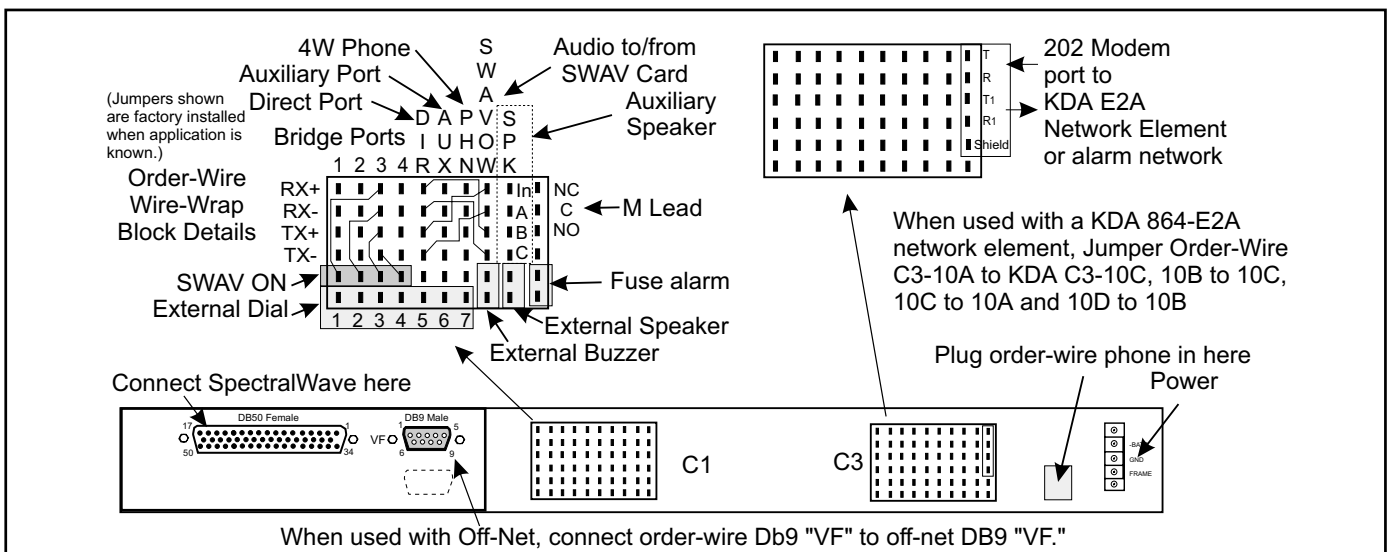

Fig. 18 - Order-wire interfaces network on wire-wrap pins at the rear of the housing.
8. Connect all inputs and outputs per Fig. 18.
9. Connect power per Fig. 18.